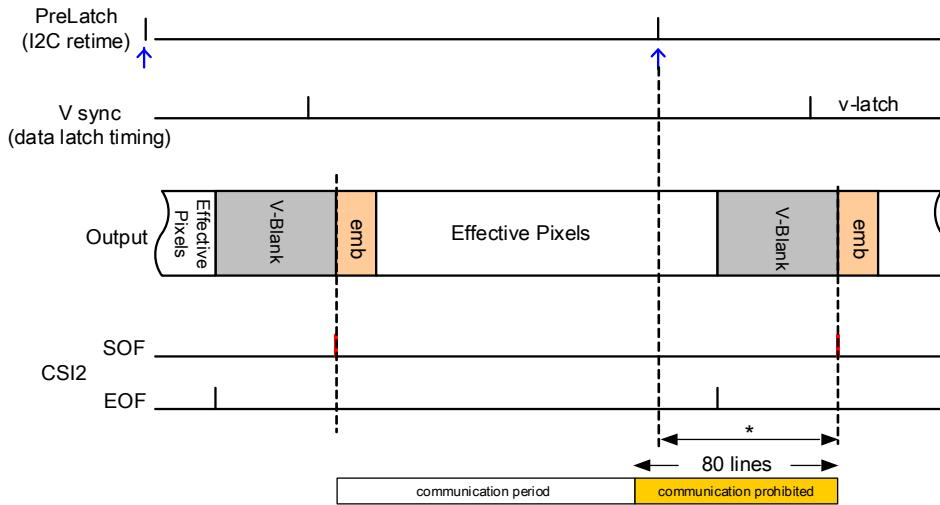

Figure 2-15 Pre-latch timing.
Pre-latch timing exist several lines ahead of the embedded data (FS), and the timing changes depending on the operating condition settings. Registers written ahead of the pre-latch timing are updated internally during the next frame, however registers afterwards are updated internally but may be delayed a frame in addition to the normal update timings. The data transmission to be updated shall be completed within the communication period outlined in Figure2-15 in order to internally update the settings for the target frame; first frame for non-GPH registers and second frame for GPH registers after register settings.
The register update timing using the “Group parameter hold function” is shown in Figure2-16. If the timing to set “Group parameter hold” from 1 to 0 is before the pre-latch timing, the register is updated internally during the next frame, however if it is afterwards, the update is delayed by 1 frame. It is recommended to release GPH within the “communication period” outlined in Figure2-15 in order to update the register with the target timing.
With this sensor, GPH can be used to update registers in continuous frames, unlikely from older product design. This is outlined in the following timing chart. Note that settings for both setting and resetting GPH must be completed within 1 frame ("communication period" shown in Figure2-15).